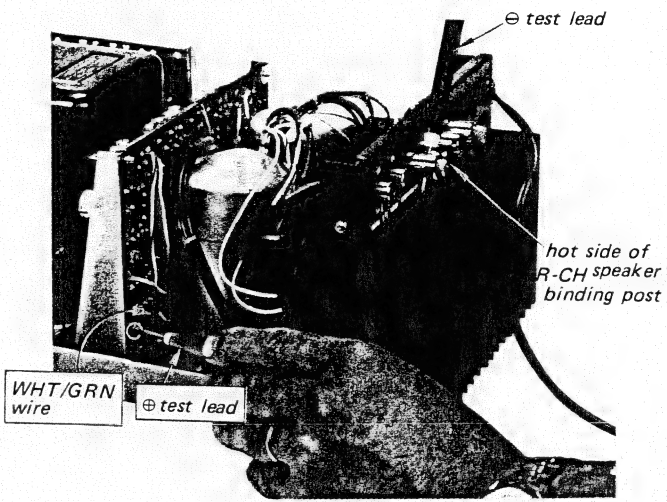
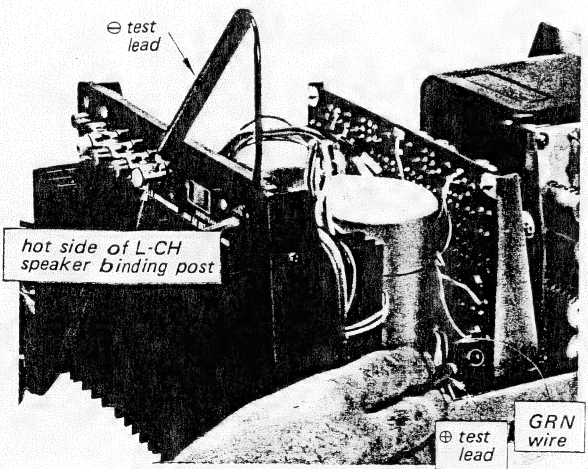

Fig. 3-2 DC millivoltmeter connection point (R-CH check)
Fig. 3-1 DC millivoltmeter connection point (L-CH check)
To avoid accidental power transistor damage, increase the ac line voltage gradually, using a variable transformer, while measuring the voltage across emitter resistors (R138 or R238) of power transistors alternately as shown in Fig. 3-1 or Fig. 3-2. Check to see that the reading does not exceed 25 mV. If it does, turn off the power as soon as possible, then check and repair the trouble in the power amplifier board.
- 2. Connect the dc millivoltmeter to emitter resistor R138 of power transistor Q110 and the hot side of the speaker binding post L-CH as shown in Fig. 3-1.